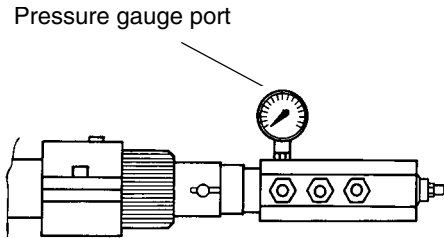

Fig. 18
- 7 the nozzle supply pressure is already factory-set and must not be changed. Only if necessary, adjust the supply pressure as follows (see related paragraph); insert a pressure gauge into the port shown on Fig. 18 and act on on the pump adjusting screw **VR** (see Fig. 17) as to get the nozzle pressure at 25bar (Fluidics nozzles - see diagram on page 20).